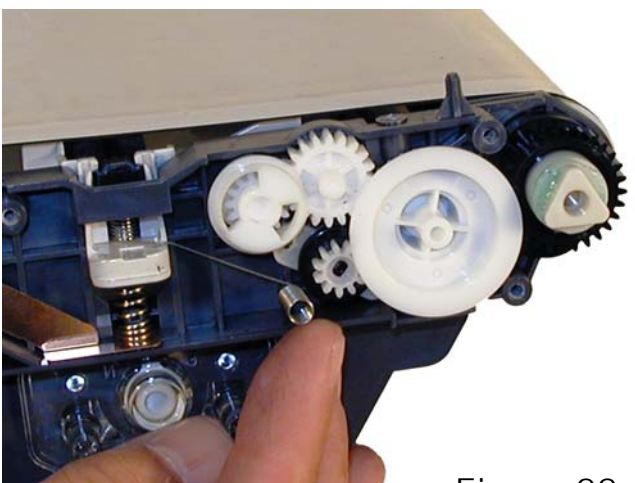

Figure 22
15) Remove the spring from the plastic shaft next to the transfer roller assembly. See Figure 22